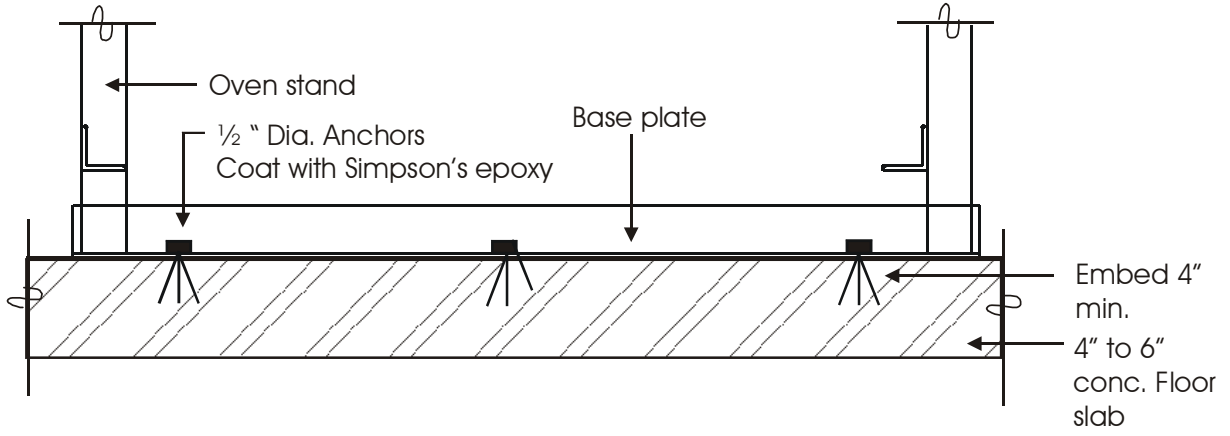

FIGURE 17-A
Slowly lower oven into proper location. Oven should be set on a level floor. Shim as necessary to assure that oven is level. Remove horizontal front angle when oven is in place. Insert ramset red heads, min. of 3 inches in length, through base plates. (See fig 17-A pg. 7 in installation instructions)
4. Once the oven is in the desired position, drill holes for the anchor bolts (Min 3 inches deep) using the base plates as a guide. Insert ramset red heads to fasten oven base plates to concrete floor. (Fig 17-A pg. 7)